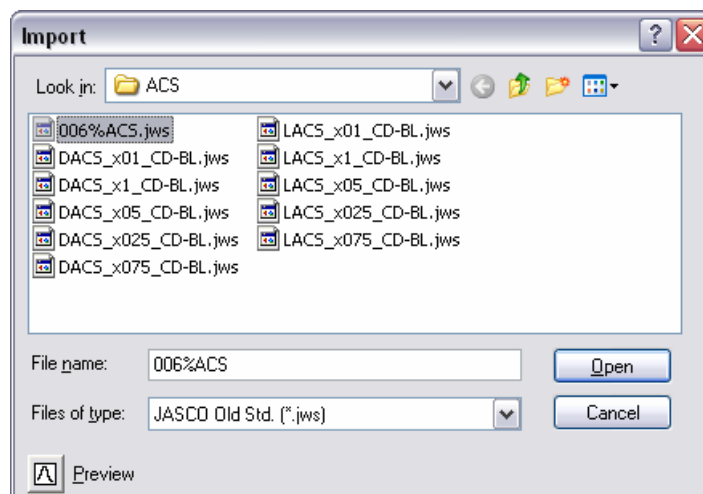

Figure. 7.4 [Open New File] dialog box
**Note (1):** ASCII files (.txt) and JCAMP-DX files (.dx) are opened from [Import] in the [File] menu, which are the [Files of type] menu shown in Fig. 7.4.
**Note (2):** Imported files can be transferred by saving them as JASCO Standard files.